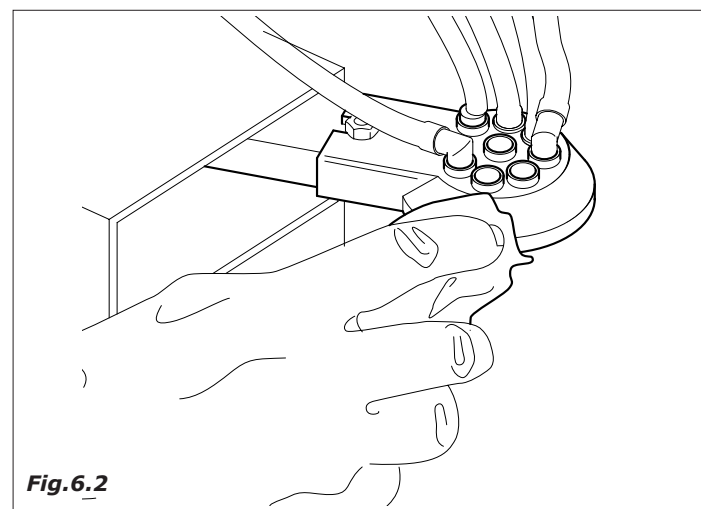

Fig.6.2
- clean all the visible parts in the dispensing area. (Fig. 6.1 e Fig. 6.2)